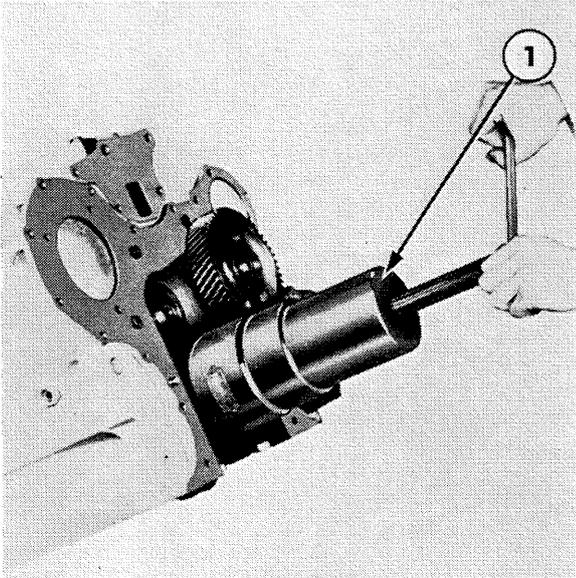

Figure 23
8. Remove the fuel injection pump drive gear, camshaft drive gear and adapter and the camshaft gear. Use Tool No. CPT.6040-B or 2134 to remove the crankshaft gear, Figure 23.